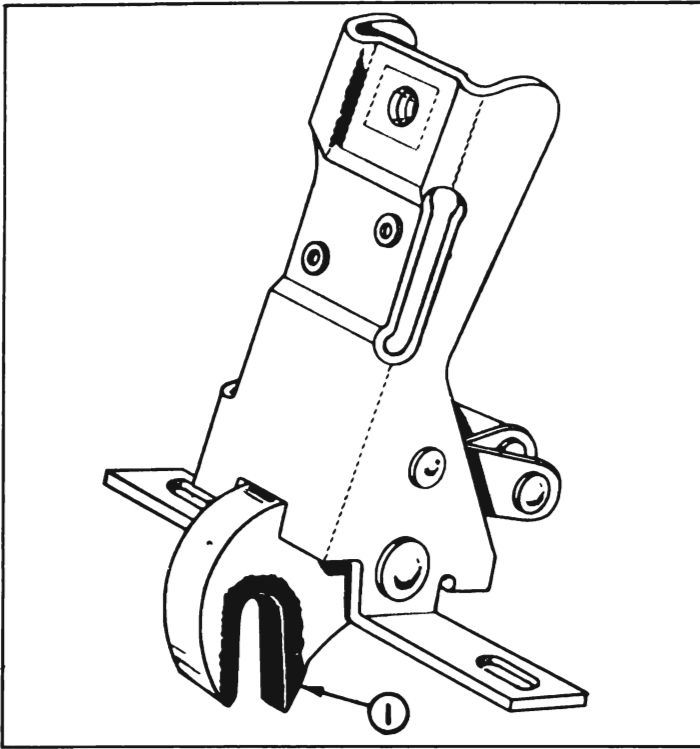

Figure 1-15—Lubrication of Rear Compartment Lid Lock Bolt
15. *Rear Compartment Lid Lock Bolt.* Apply Lubriplate or its equivalent along area indicated at "1" in figure 1-15. Wipe off excess lubricant.